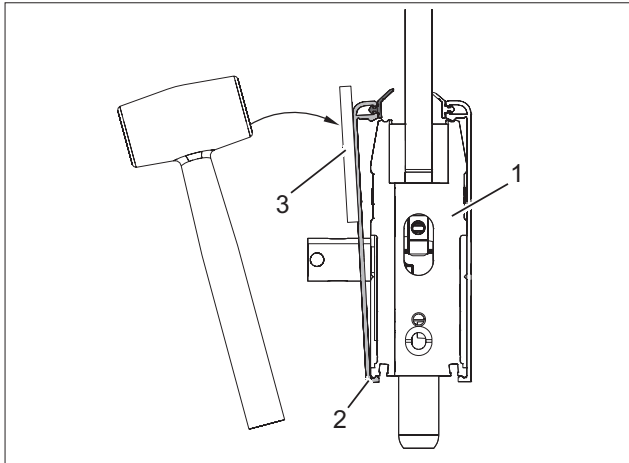

Fig. 33 Snap on cover profile
4. Place the cover profile (Fig. 33/2) on the door rail from below (Fig. 33/1) and snap on using a hammer. Do not hit the cover profile directly with the hammer; (Fig. 33/2) rather, use an intermediate layer (Fig. 33/3).